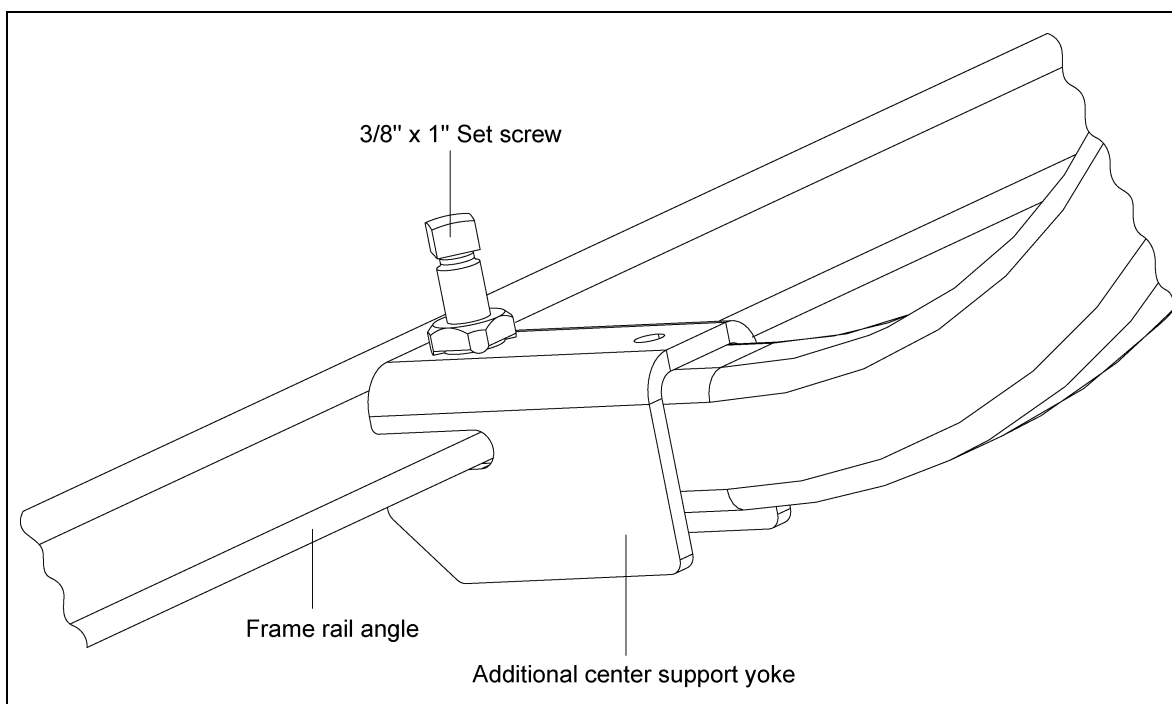

Figure 4W
3. Place bottom of support yoke onto the frame rail angle flange and fasten with 3/8" x 1" set screw. (See Figure 4W.)